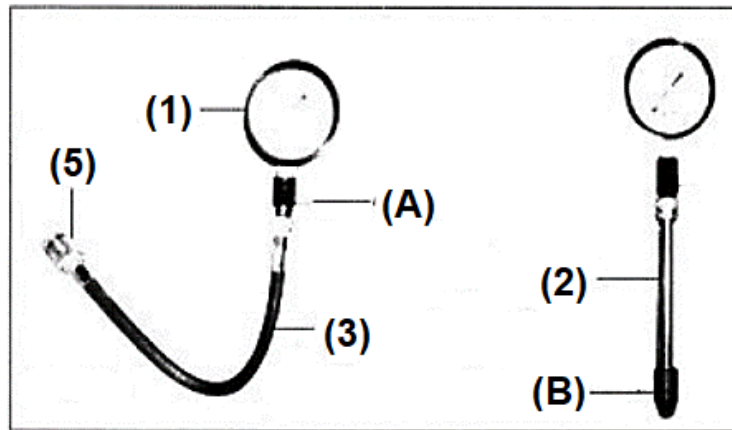

Figure 1
2. The compression tester has an adapter connection **(2)** with rubber cone, which can be used with all variations of spark plug hole. Further, it has a hose connection **(4)**, which is suitable for 14 mm and 18 mm spark plug hole (see fig. 1).
5. Either attach the adapter connection (2) or the hose (3), as well as the hose connection (5) to the pressure gauge (1) (see fig. 1).
2. **To clean** the device, use a clean cloth with mild cleaning detergents. Do not use solvents, as the compression tester can be damaged by these. Do not immerse the manometer (**Fig. 1/3, 1**) into any liquids. Store the compression tester in a safe, dry area, out of reach of children and other unauthorised people.